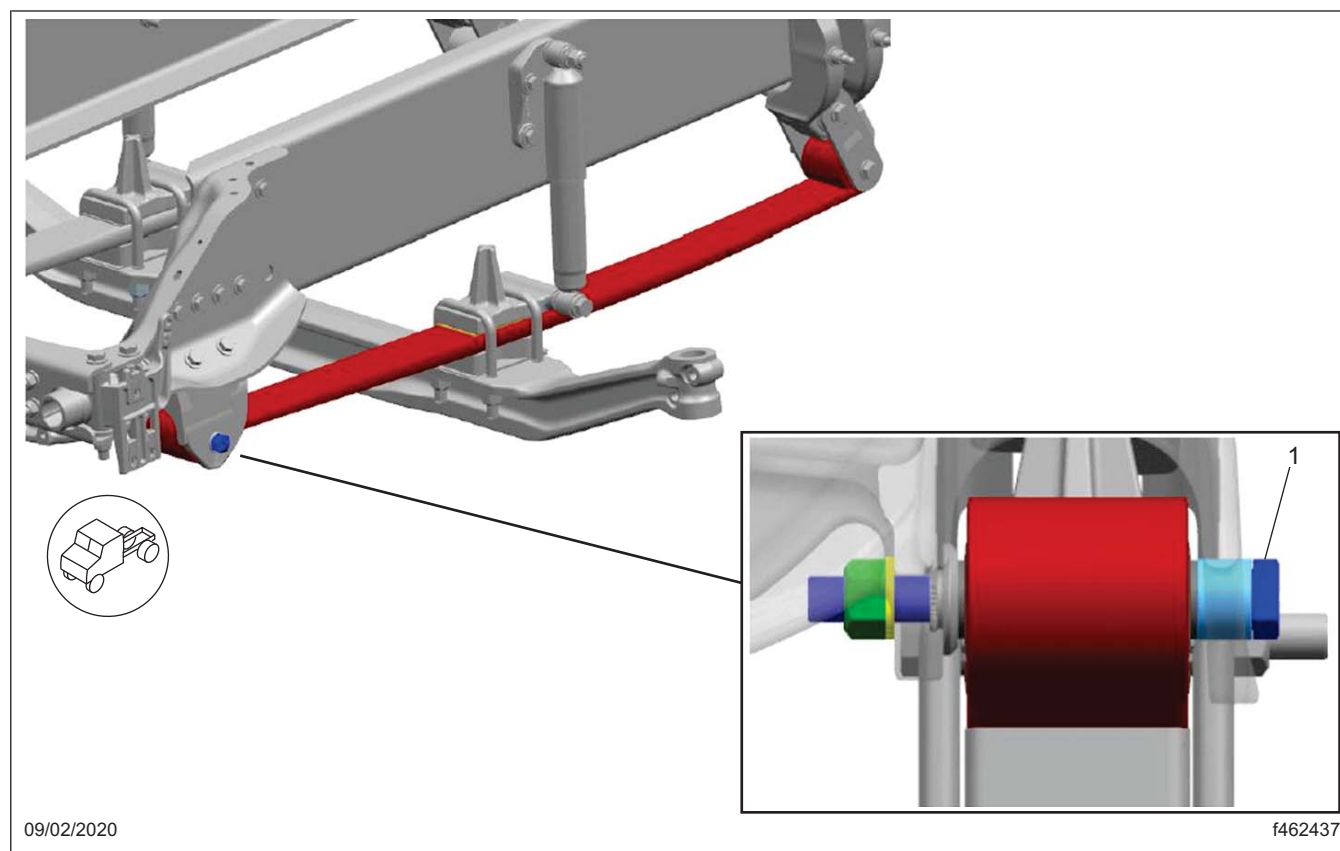

Fig. 1, M20 Bolt Head Location
2. Locate the M20 fastener that attaches the steer axle spring to the spring hanger. See Fig. 1.